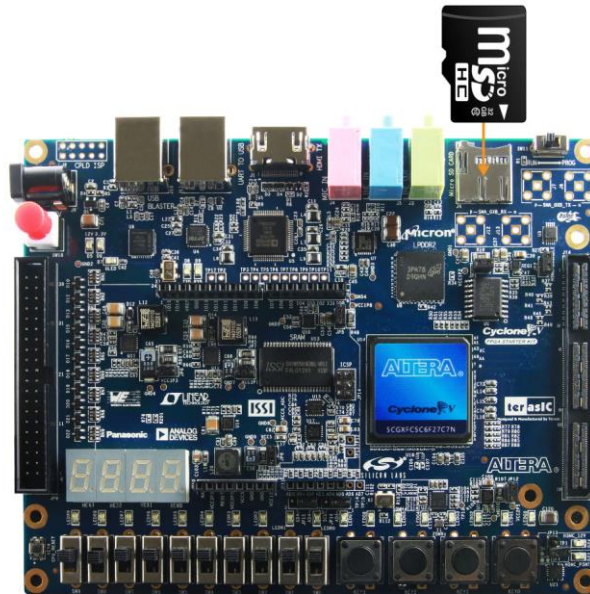

Figure 6-17 Insert the Micro SD card into C5G
- Insert the Micro SD Card into the SD Card socket of C5G, as shown in **Figure 6-17**